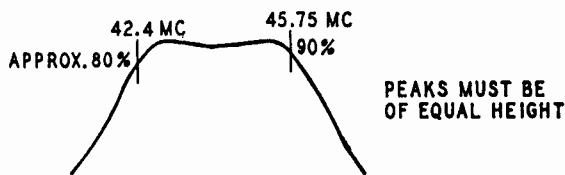

Fig. 3—2nd Pix I-F Response
45.8MC	Adjust T202 (bottom) for maximum gain at 45.8MC. See Figure 3.
1. Connect sweep output to 2nd I-F grid (pin #1-V4), oscilloscope to Test Point "1". Set output of sweeper so that some output is indicated in oscilloscope. Adjust 2nd PIF transformer (T-201) primary (bottom) and secondary (top) simultaneously for maximum output and symmetry. Readjust sweeper output for 4.0V P-P on oscilloscope. Touch-up to give the waveform shown in figure 3.